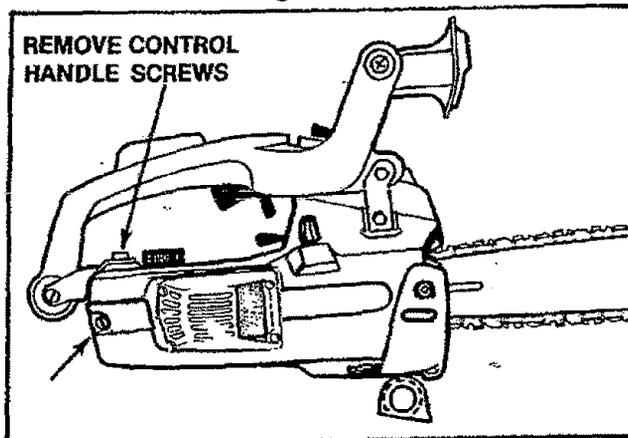

Figure 46
3. Remove the large screw at the rear of the control handle and the small screw directly below it. Figure 46.